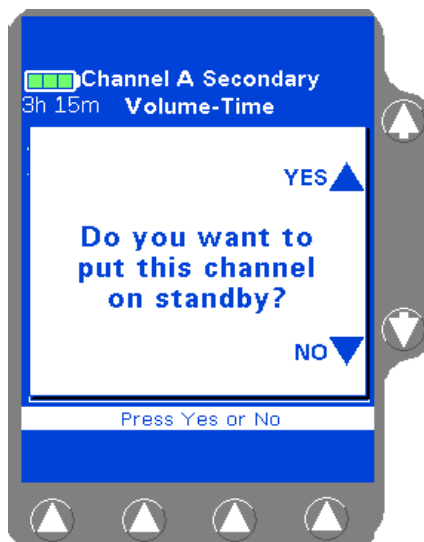
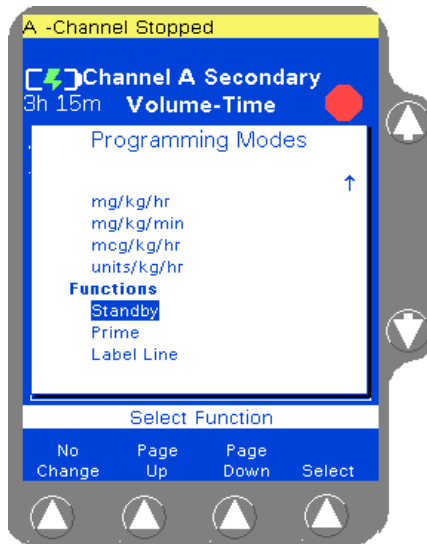

Figure 4-82 Standby Pop-up
Figure 4-83 Programming Modes Menu
3. Press the **Channel Select** key again. The Standby pop-up is displayed (Figure 4-82).
Standby can also be selected from the Programming Modes menu (Figure 4-83). After **Channel Select** is pressed (step 1 above), press the **Change Mode** soft key, then use the $\uparrow\downarrow$ keys to highlight **Standby** and press the **Select** soft key. The Standby pop-up is displayed (Figure 4-82). Continue with step 4 above.